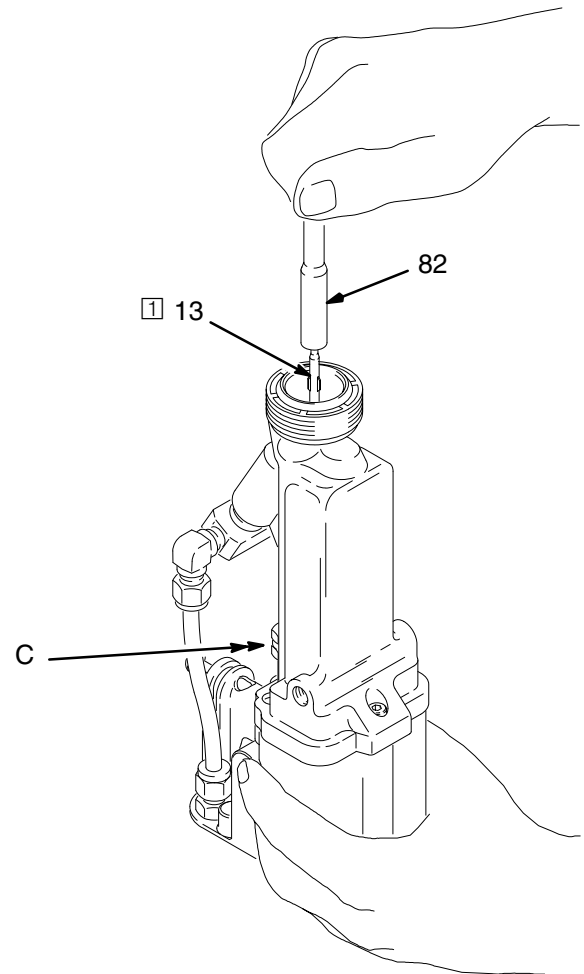

Fig. 22
6. Make sure the electrode needle (13) is tightened properly. Refer to Fig. 22.
3. Unscrew and remove the electrode needle (13) with the electrode wrench (82). See Fig. 22. Be careful not to damage the contact wire.